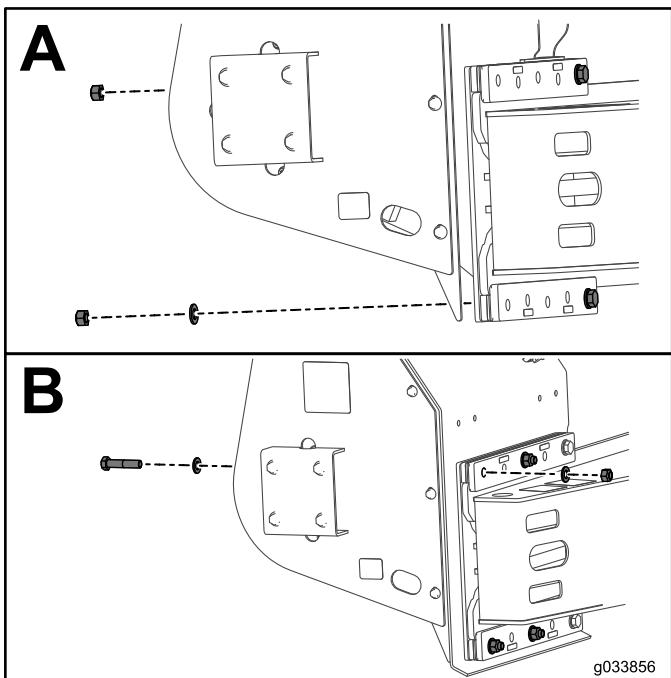

Figure 5
11. Secure the top bolt with a locknut as shown in Box A of Figure 5.
12. Secure the bottom bolt with a washer and a locknut as shown in Box A of Figure 5.